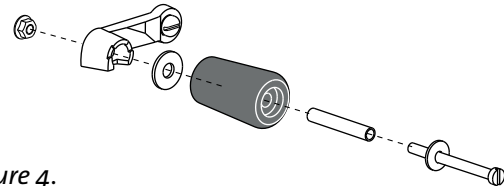

Figure 4.
1. Locate the white washer between the handle and the knob and attach to the door latch as shown in **fig. 4**.